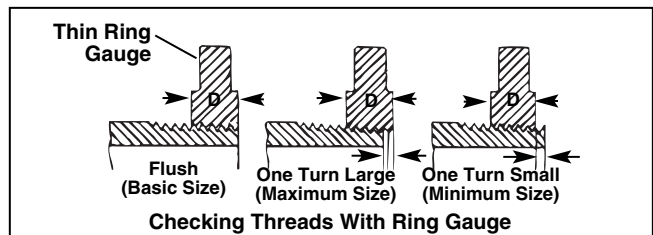

Figure 16 – Checking Thread Size
3. Inspect the size of the thread. The preferred method of checking thread size is with a ring gauge. There are various styles of ring gauges, and their usage may differ from that shown in Figure 16.